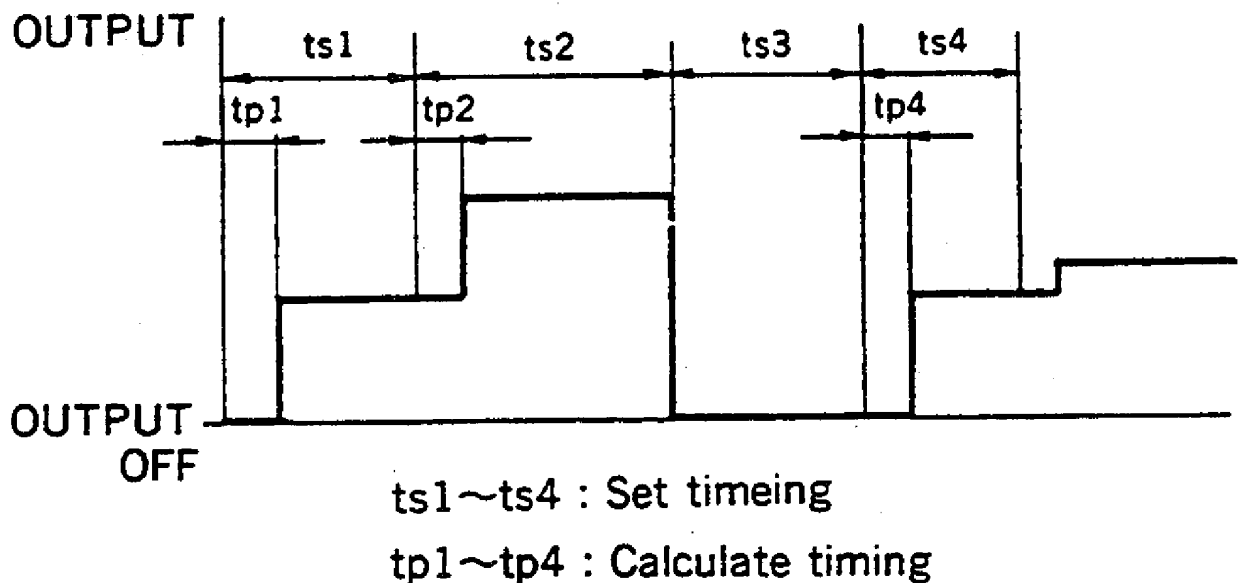

Fig. 6
- For data in TC(0°C) and TC(RJ) ranges, the actual output timing will differ from the set timing because of time required for calculation, as indicated in Fig. 6. Where output time for the TC(RJ) range is set to over about seven seconds, the time required for reference junc-